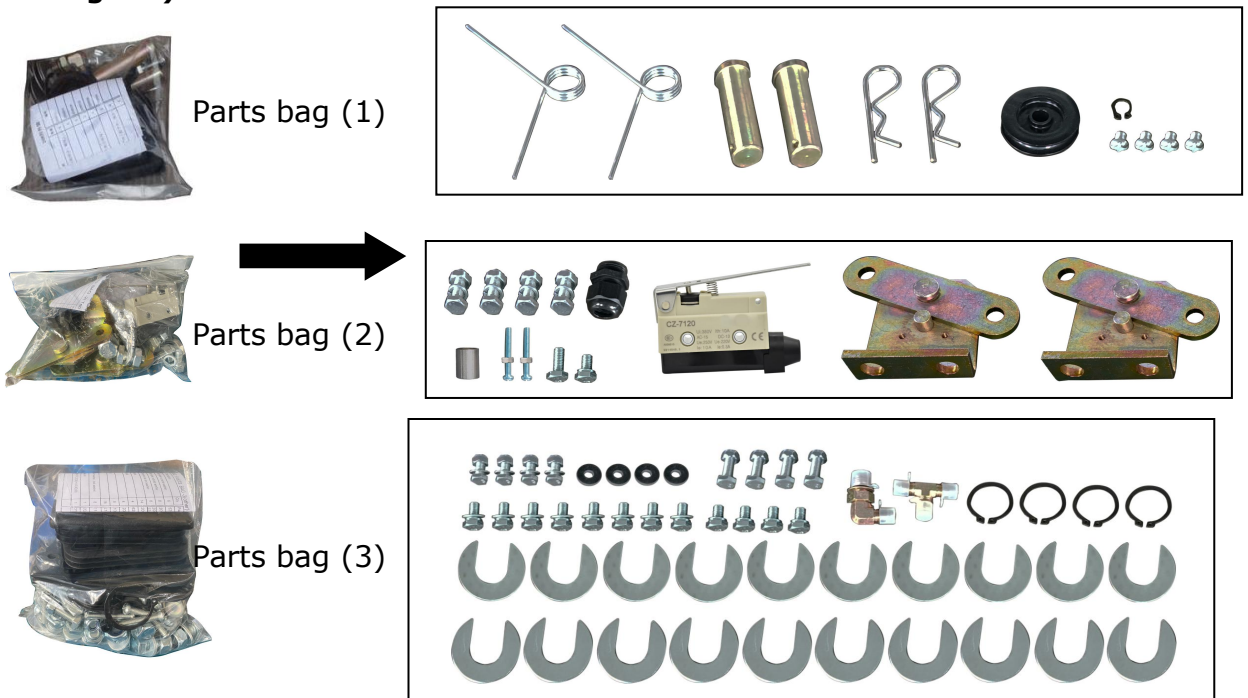

Fig. 17
5. Open the bag of parts and check the parts of the parts bag according to parts bag list (See Fig. 17).